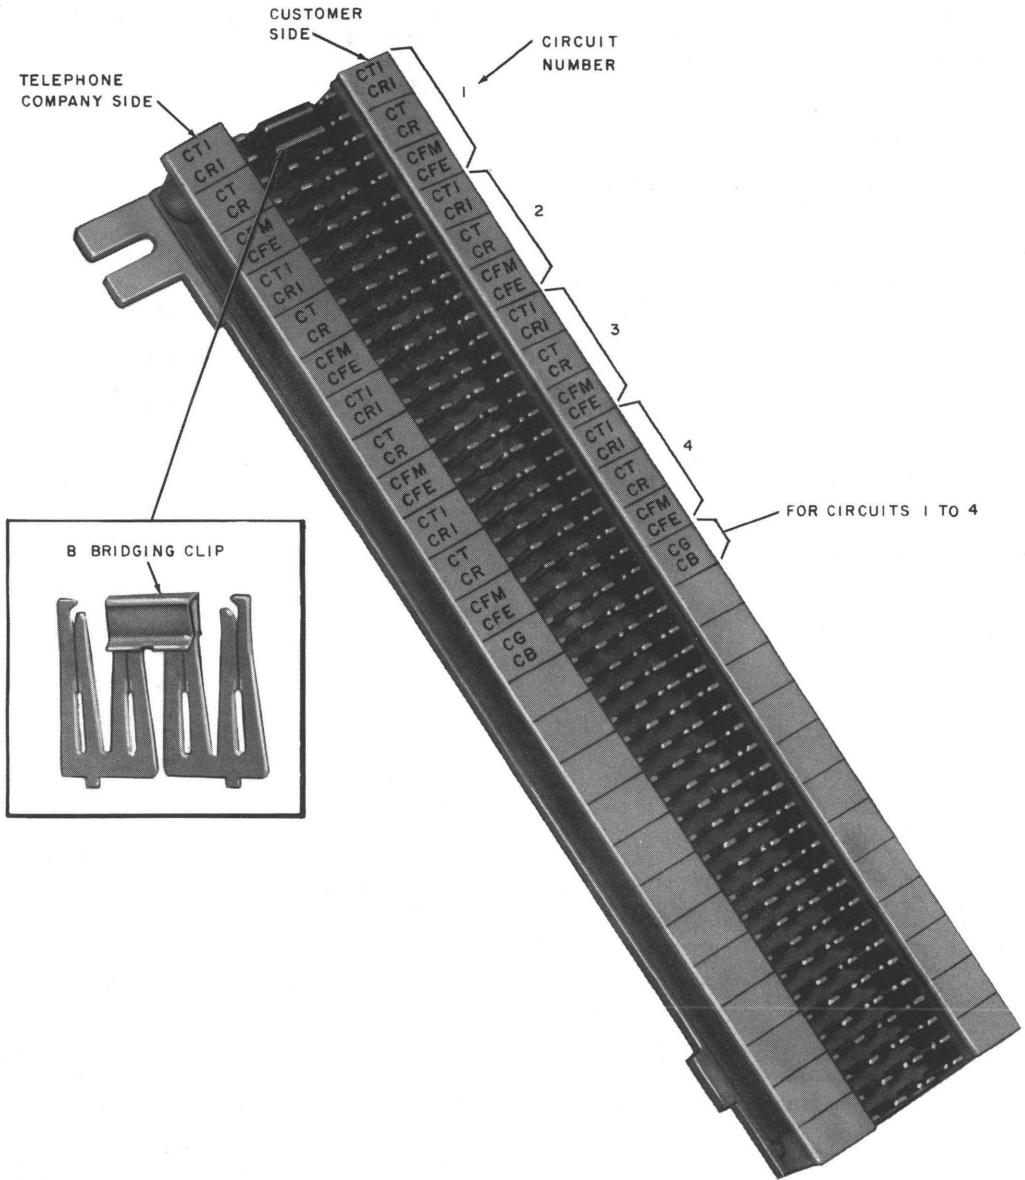

Fig. 5—Typical Interface Connecting Block
3.02 Wire the equipment as shown in Fig. 9, 10, and 11. Mount the interface connecting block in a position that will facilitate testing between it and the PCA equipment. Use the "D" inside wiring cable or equivalent to terminate the leads associated with the CP equipment on the interface connecting block. Stencil trunk number and lead designations on interface connecting block designation strip (see Fig. 5). Install the proper plug-in components in the 24V4C or 44V4A repeaters. (When the AGC amplifier is used, see 7.02 for adjustment procedures.) For PCA C2H (Centrex-CO), make the signaling lead extension unit adjustments as given in 3.03. Apply power as shown in Fig. 9, 10, and 11. Before installing bridging clips on the block to connect Bell System wiring to CP wiring, perform the quick test in 3.08 to determine if the PCA operates properly. If it does not, recheck installation and connections; if necessary, perform the maintenance procedures in Part 5 of this practice.